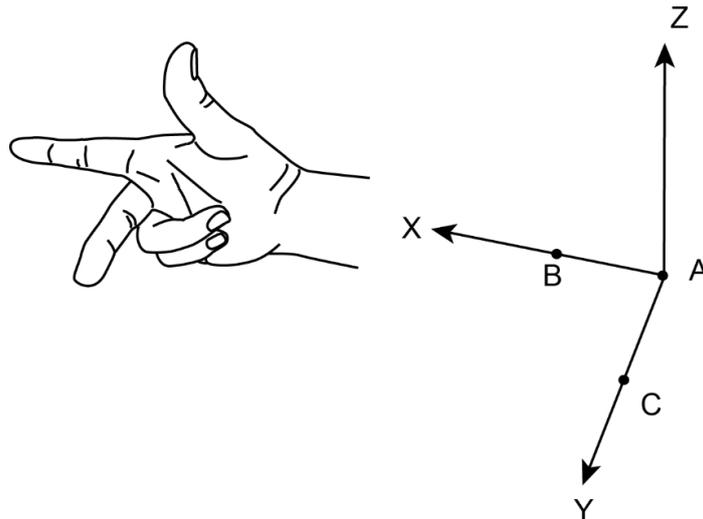

Figure 5.9 Area
- Area: User coordinate system is created by three-point calibration method. Move the robot to three points  $A(x_1, y_1, z_1)$ ,  $B(x_2, y_2, z_2)$ , and  $C(x_3, y_3, z_3)$ . Point A is defined as the origin and the line from point A to Point B is defined as the positive direction of X-axis. The line that point C is perpendicular to X-axis is defined as the position direction of Y-axis. And then the Z-axis can be defined based on the right-handed rule, as shown in Figure 5.9.